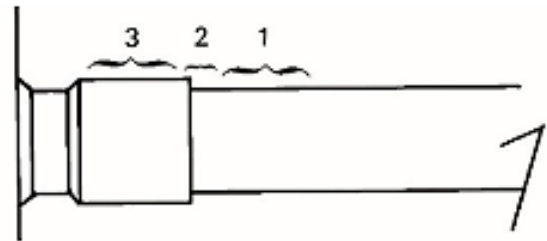

Figure 3 Scroll Tube Brazing
- Apply heat in Area 1. As tube approaches brazing temperature, move torch flame to Area 2. (See Scroll Tube Brazing Figure 3 below.)
- Heat tube uniformly in Area 1, moving slowly to Area 2. When joint reaches brazing temperature, apply brazing material. (See Figure 3)